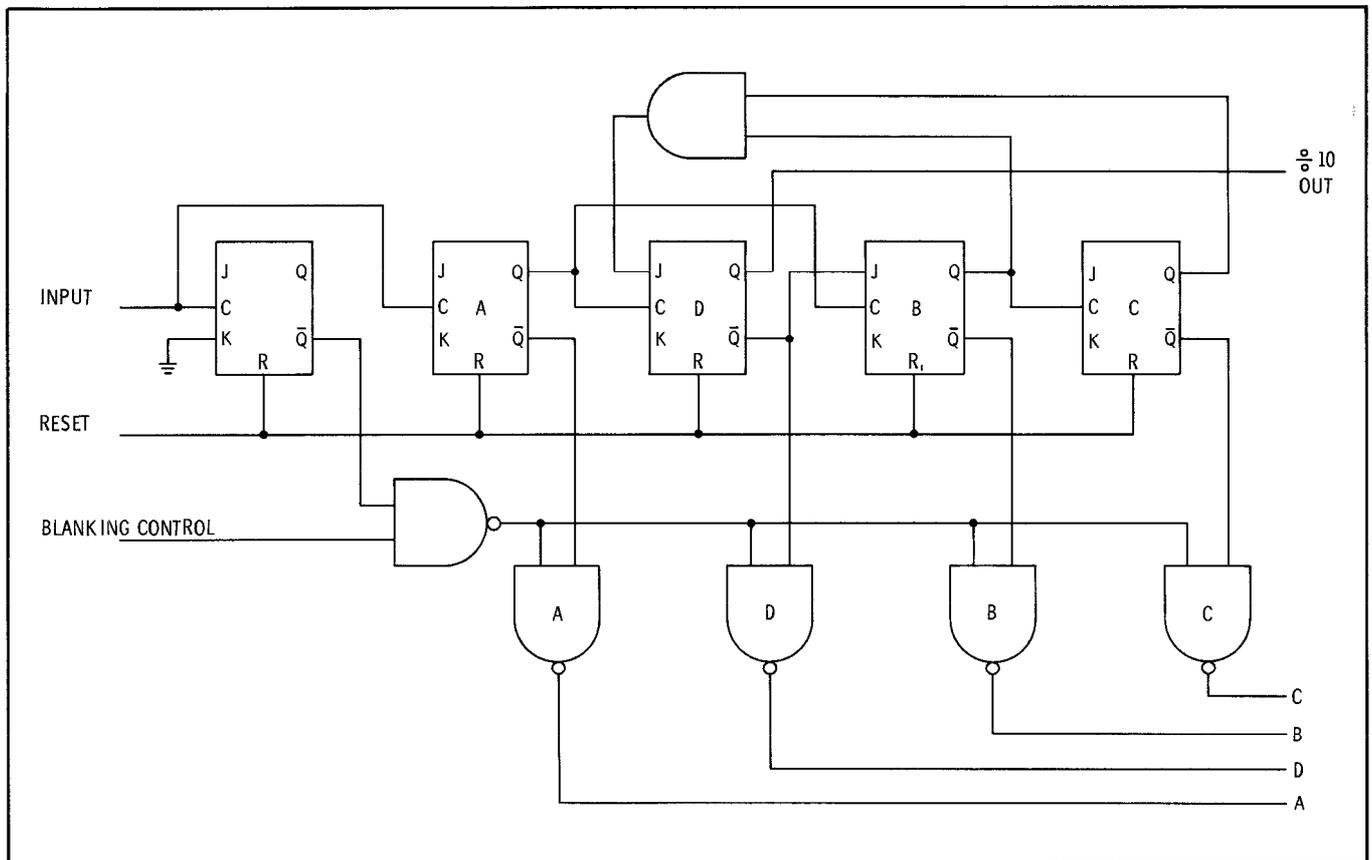

Figure 8-13. Blanking Decade Counter
8-48. BLANKING DECADE COUNTER. Figure 8-13 illustrates a blanking decade counter. The circuit will divide by ten and provide BCD (binary coded decimal) outputs for decimal numbers 0 through 9. In addition, the A, B, C and D outputs may be set to 1111 (15) to cause the numerical readout device to be blanked.